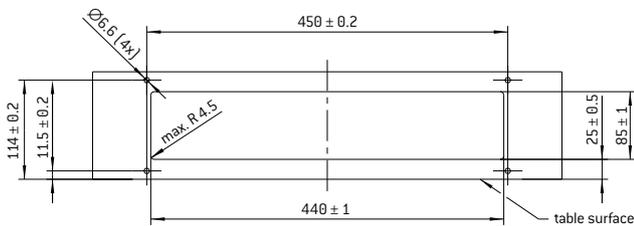
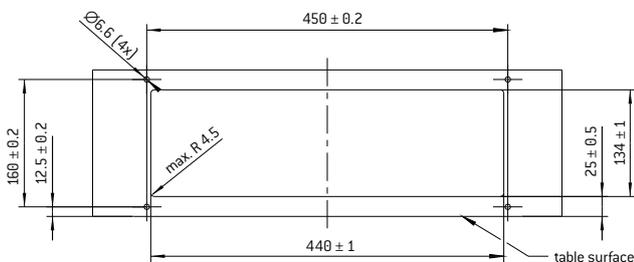

Fig. 111
Fig. 112
- For a customer housing, the dimensions listed in Fig. 111 for Size TWO and Fig. 112 for size FOUR must be observed for mounting the adapter (ITA).